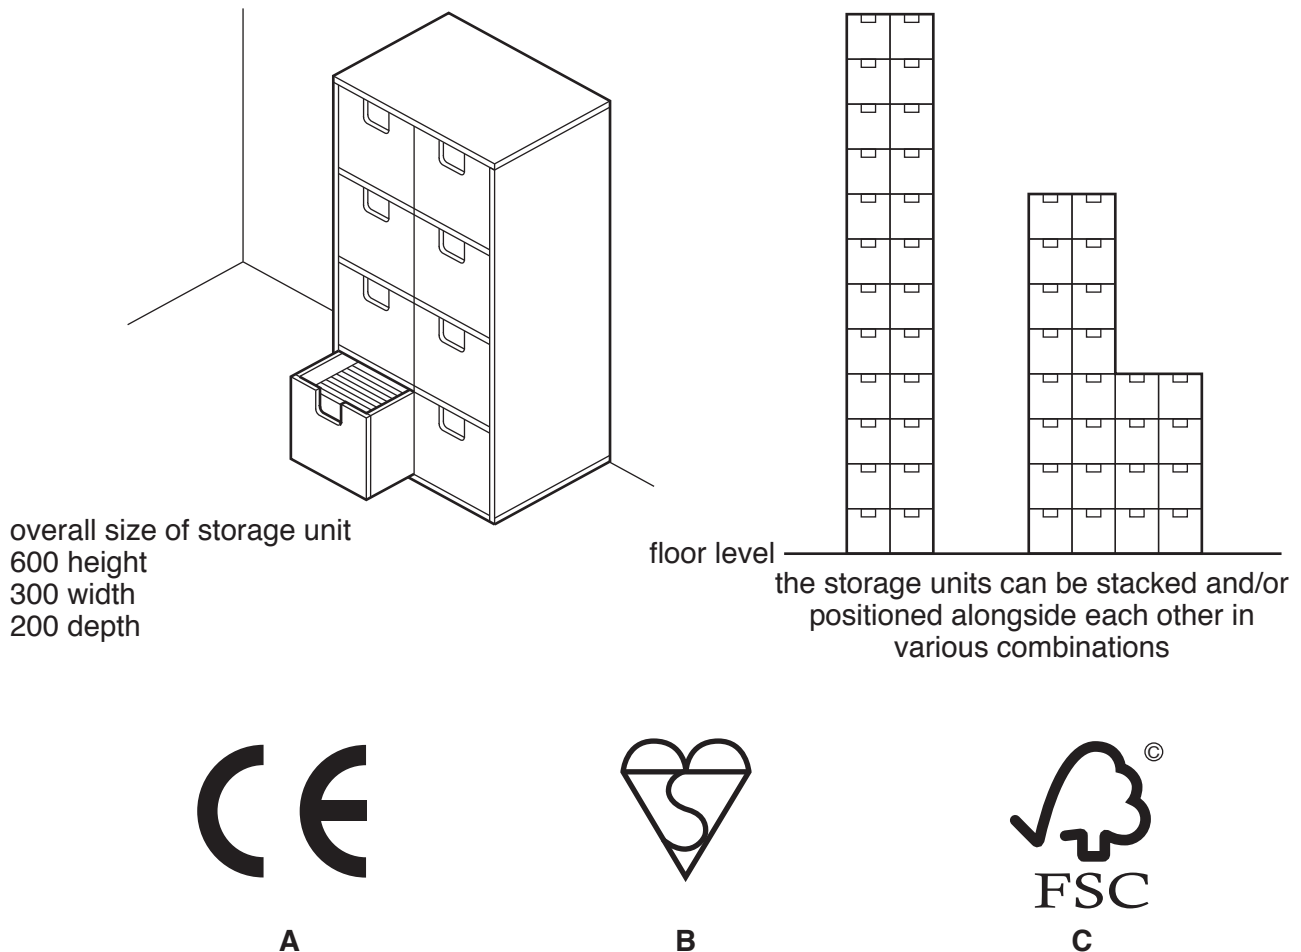

Fig. 4
- 4 Fig. 4 gives details about a modular storage unit that can be arranged in various combinations as illustrated. The symbols shown are ones that many manufacturers place on their products.
- (b) Tests carried out on the storage unit have shown that it is unsafe when used in the combinations shown in Fig. 4.